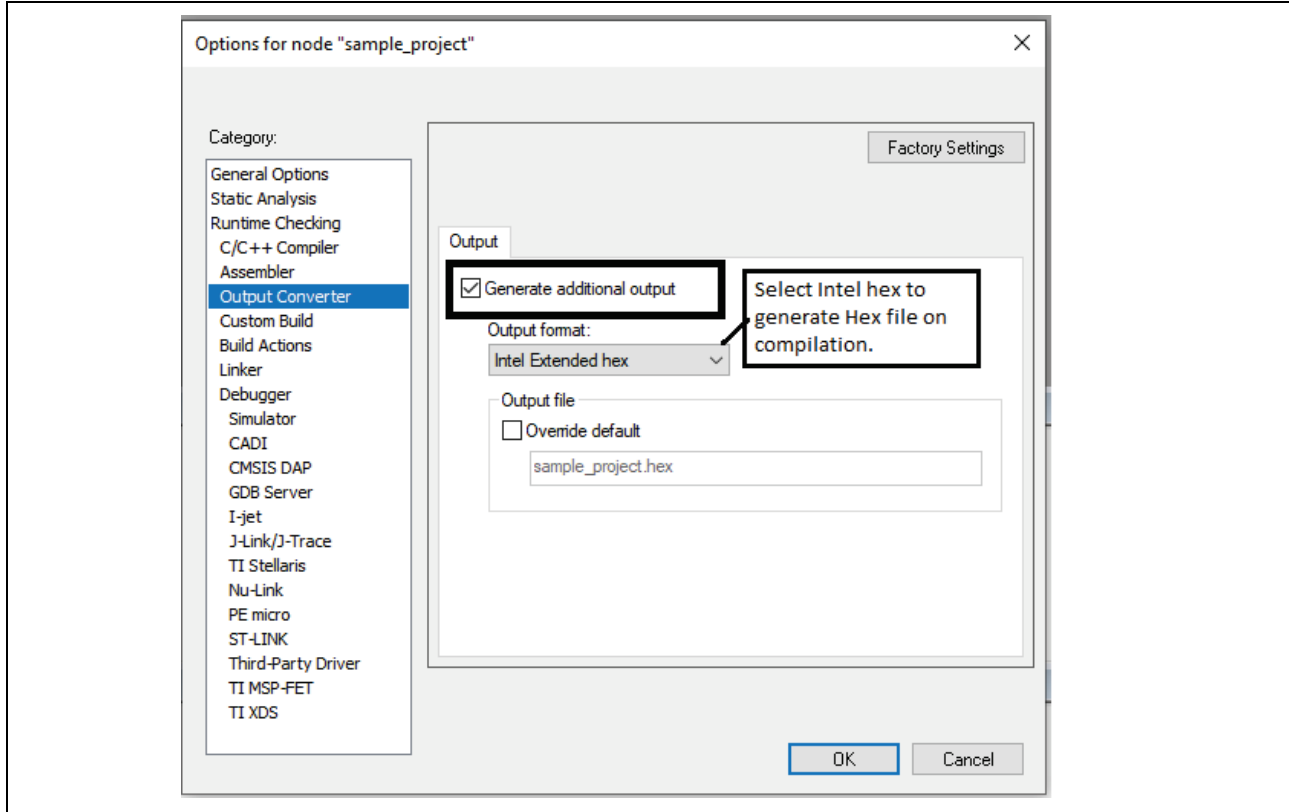

Figure 22. Output Converter
4. In the same **Options** menu, select **Output Converter** in **Category**. Check **Generate additional output** and optionally **Output format** as **Intel Extended Hex** as shown in Figure 22.